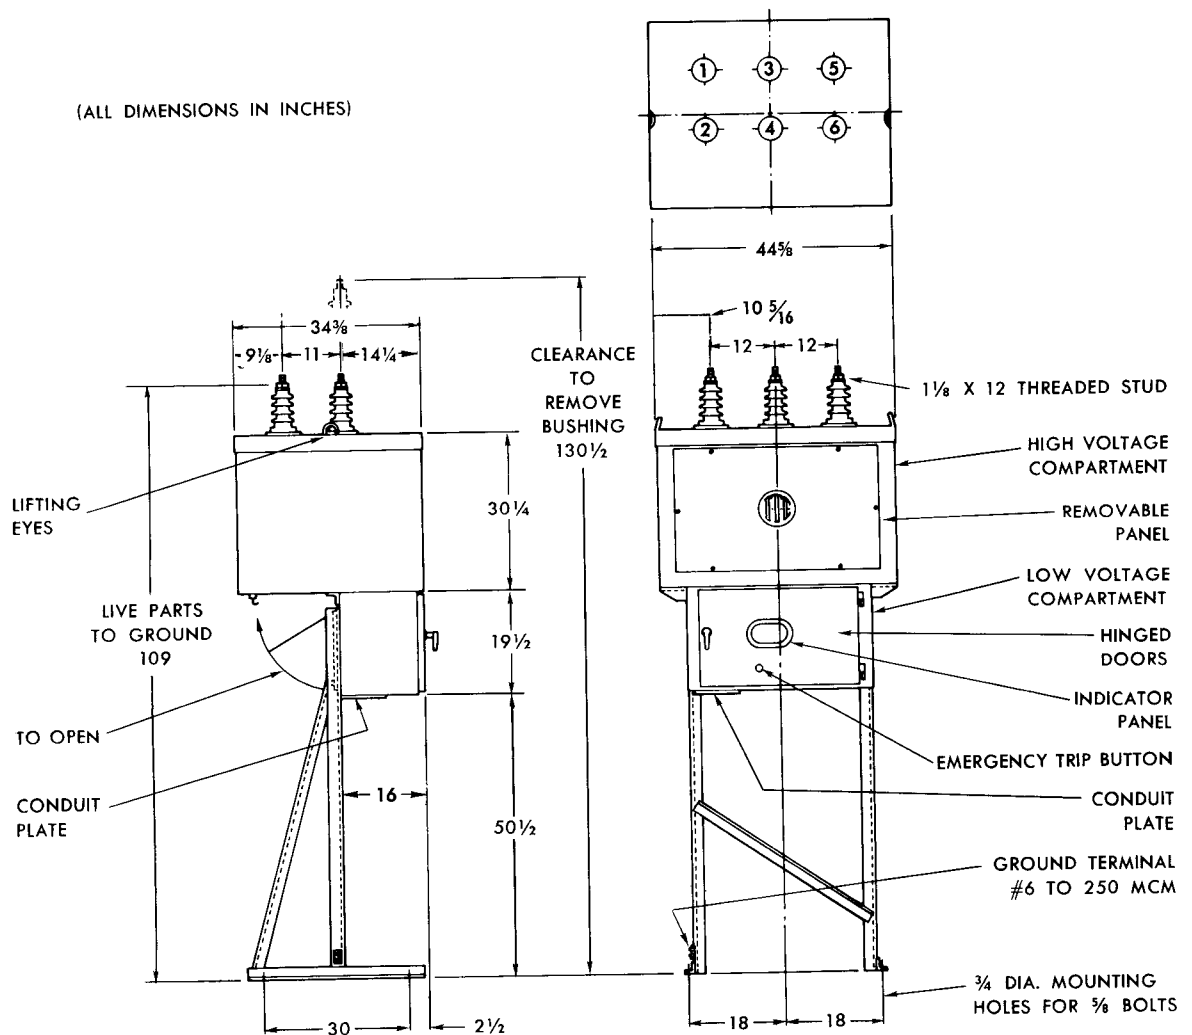
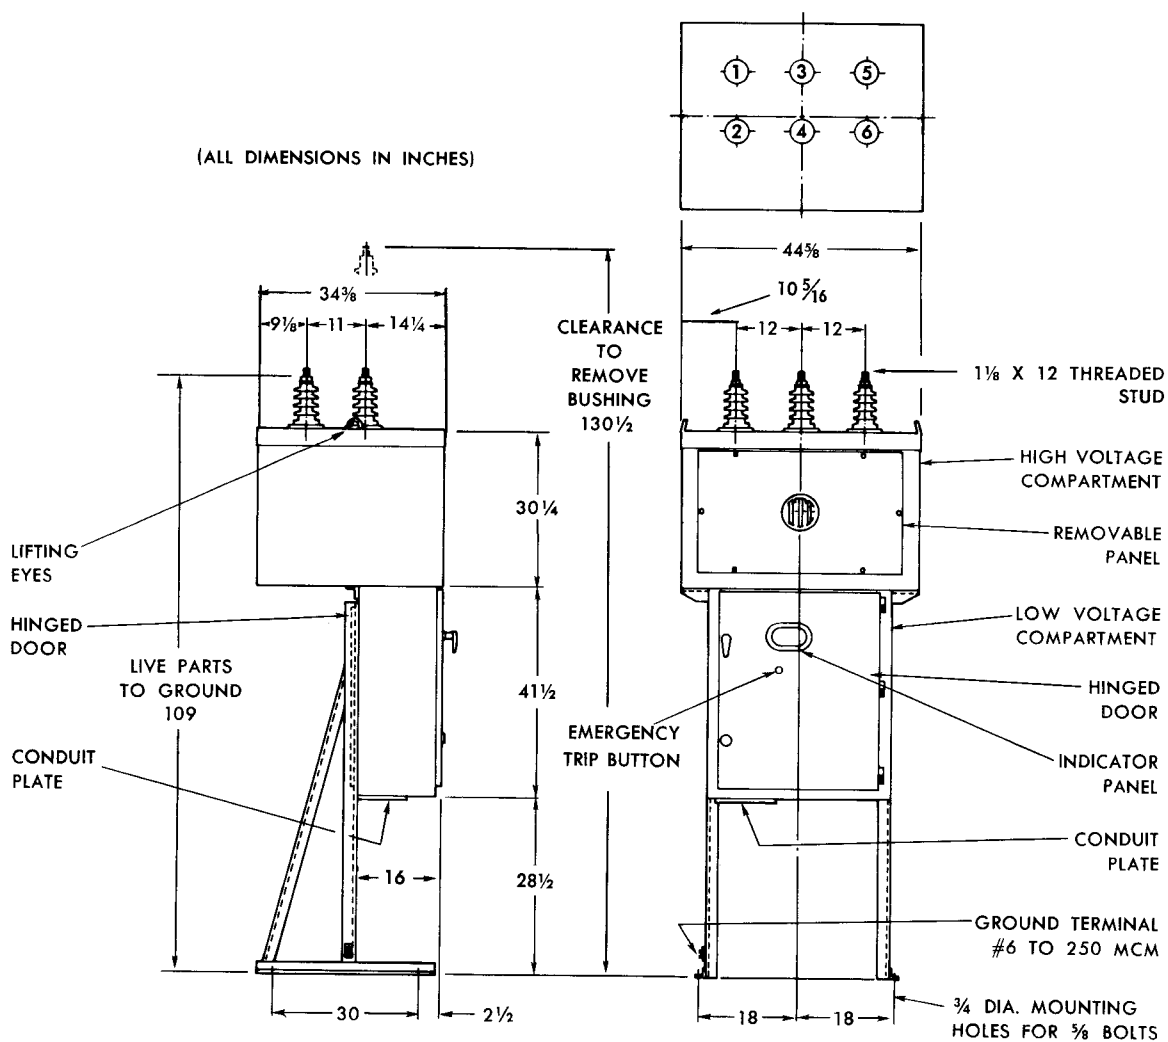
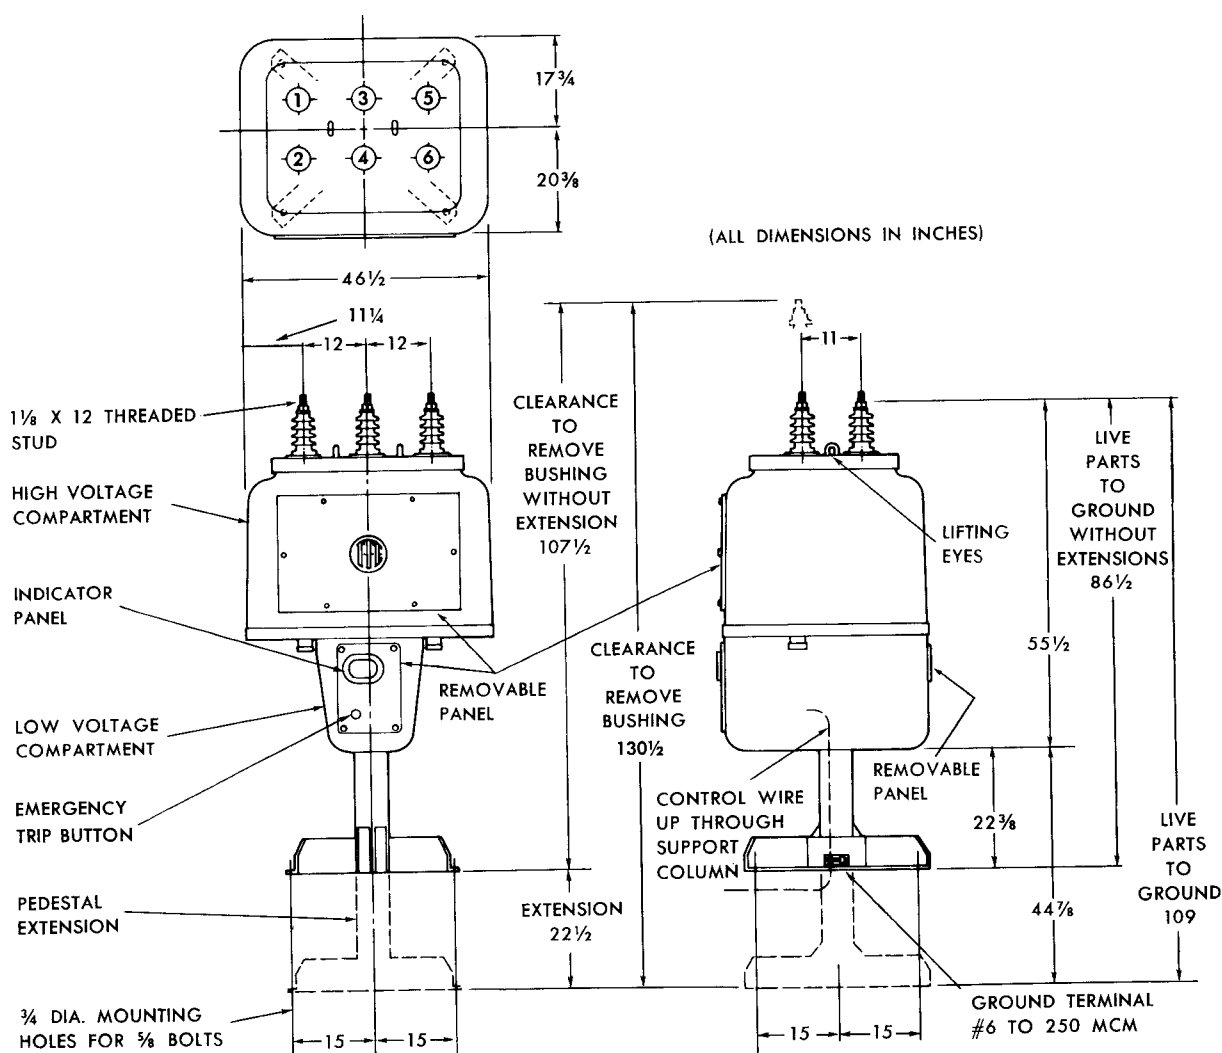

Fig. 2. Metal-Housed Non-Relayed Basic Breaker (Model VBM) Assembled for Station Mounting.
Fig. 3. Metal-Housed Relayed Non-Reclosing and Reclosing Feeder Breaker (Model VBM).
Fig. 4. Fiberglass-Housed Model VBP Non-Relayed Basic Breaker Assembled for Station Mounting.
crane lift. After removing the front portion of the crate and all packing material, lift the unit from the remainder of the crate. If the breaker is a metal-housed model, attach the supporting frame in accordance with Figure 2 or Figure 3. Look on the bottom of both the high voltage compartment and the low voltage compartment for any parts that may have been broken from the assemblies during shipment.
4. Bolt the pedestal extension in place as shown in Figure 4 or 5.
The general configuration, dimensions, location of foundation bolts, power line connections, access panels or doors, and provisions for conduit connections needed to mount both breaker models are shown in Figures 2, 3, 4 and 5. Refer also to equipment drawings for specific installations.
NOTE: The above currents are peak inrush and wire size will be adequate if calculations are based on them. With the metal-housed model, the control conduit is brought into the low-voltage compartment through the removable conduit plate that is provided. (See Figures 2 & 3). With the plastic-housed model, the control conduit is brought in through the bottom of the hollow main pedestal (Figures 4 and 5).